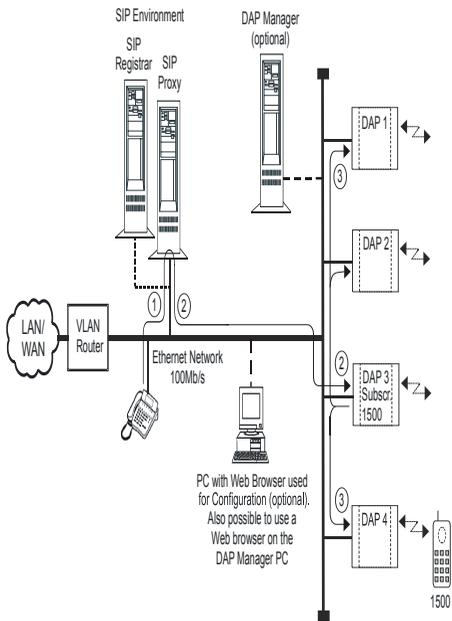
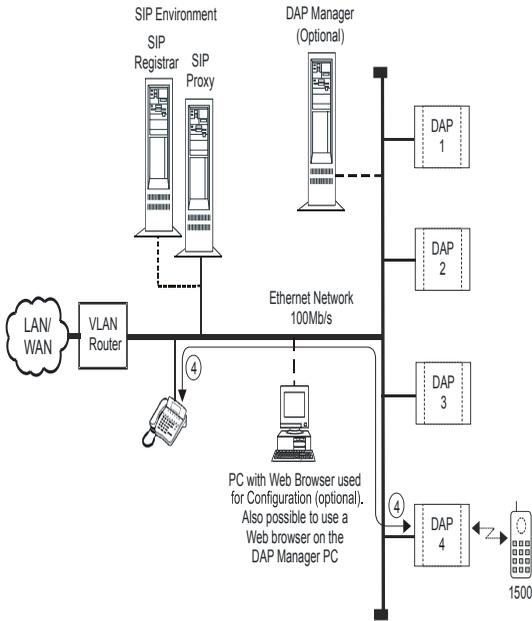

Figure 2-4 Initial Call Setup from the SIP Proxy to a DECT handset.
Figure 2-5 Call established between IP SIP extension and a DECT handset
See Figure 2-4 "Initial Call Setup from the SIP Proxy to a DECT handset." as example. In this example you see a call setup from an IP SIP phone to a handset on the Business Mobility IP DECT system. The IP SIP phone goes dials extension number 1500 and goes off-hook. As result it issues an "INVITE" (call setup request) to the SIP Proxy; in the figure: (1). This "INVITE" contains the UAS information: the extension number and the domain/ realm where the extension is located. The SIP Proxy may respond to this "INVITE" with a request for authentication (407 Proxy Authentication Required). If so, the "INVITE" is send again but now with an Authorization header (user name and password). The SIP Proxy accepts the "INVITE" and sends back an OK message. The SIP Proxy tries to discover where the UAS is located. In this example it is located on DAP 3 because the *subscription* record for extension 1500 resides in DAP 3. Therefore the socket IP address for extension 1500 is the IP address of DAP 3. It forwards the "INVITE" to DAP 3; in the figure (2). DAP 3 (AP200) receives the "INVITE" for extension 1500 (UAS), but it does not know in which radio cell the handset is. It will issue an IP multicast to all DAPs; in the figure (3). As depicted in the figure, extension 1500 is in the environment of DAP 4, which means that DAP 4 will send relevant information back to the DAP 3. DAP 3 forwards the call setup request (INVITE) using a proprietary protocol and handset 1500 will start ringing. DAP 3 sends back a "RINGING" message to the SIP Proxy who forwards this to the originator (UAC). When the handset goes off hook, an "OK" message is sent to the SIP Proxy and negotiation about parameters (codec, payload, etc.) takes place. When negotiation is finished and accepted, the UAC sends an "ACK" message to the DAP 3 (via the SIP Proxy). The speech path is set up between the originating extension and **DAP 4**. See Figure 2-5 "Call established between IP SIP extension and a DECT handset". Note that the Signalling-end-point for this call is DAP 3 but the Voice connection-end-point is DAP 4. (the DAP where the handset is at that moment of call setup).